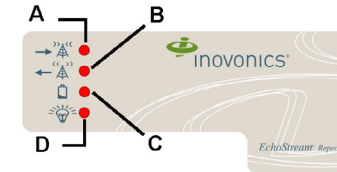

Figure 2 High power repeater front panel
- Plug the connector cable from the backup battery into the battery connector (Figure 2).
- Attach one of the mounting screws to the wall through the tamper mounting hole (Figure 2).